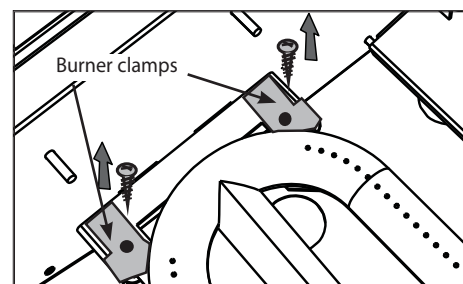

FIG. 52
3. Using a Phillips screwdriver, unscrew the clamps holding the burners in place on either side Fig. 52. Put the clamps and screws safely aside.